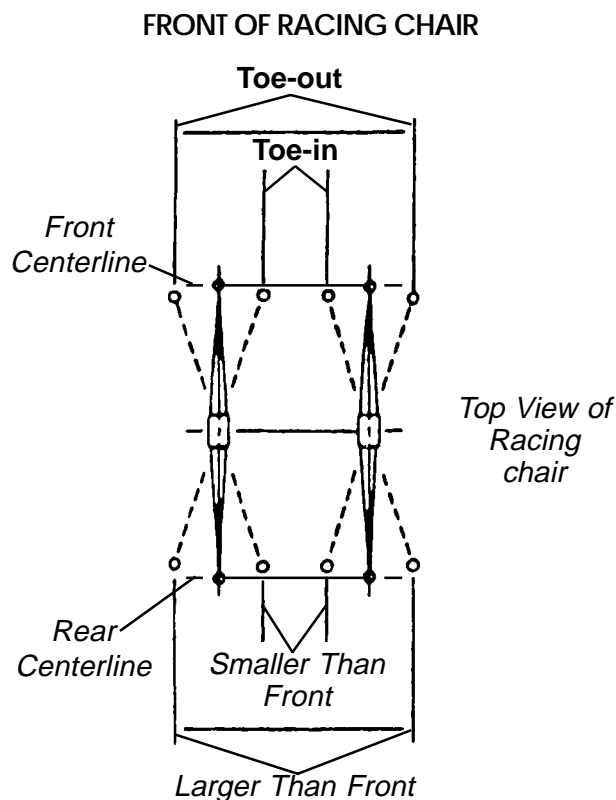

FIGURE 5 - DETERMINING TOE IN/TOE OUT
### DETERMINING TOE IN/TOE OUT (FIGURE 5)
3. Determine the difference between the two (2) measurements. If the **difference** between the **two (2) measurements** is **GREATER** than **1/2-inch (0 ± 1/4-inch for maximum rollability)**, one (1) of two (2) conditions exists:
- a. If the **rear centerline measurement** of the rear wheels is **SMALLER** than the **front centerline measurement** of the rear wheels, a **TOE-OUT** condition exists (FIGURE 5).
- b. If the **rear centerline measurement** of the rear wheels is **LARGER** than the **front centerline measurement** of the rear wheels, a **TOE-IN** condition exists (FIGURE 5).